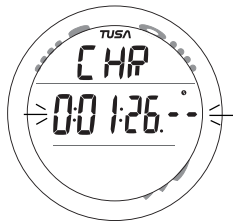

Fig. 18 - CHRONOGRAPH
- During the first 4 seconds the 1/100th second values will be displayed after which 2 dashes ( . - - ) will be displayed (Fig. 18). The 1/100th values will be recorded and displayed when Laps are frozen and when later recalled.